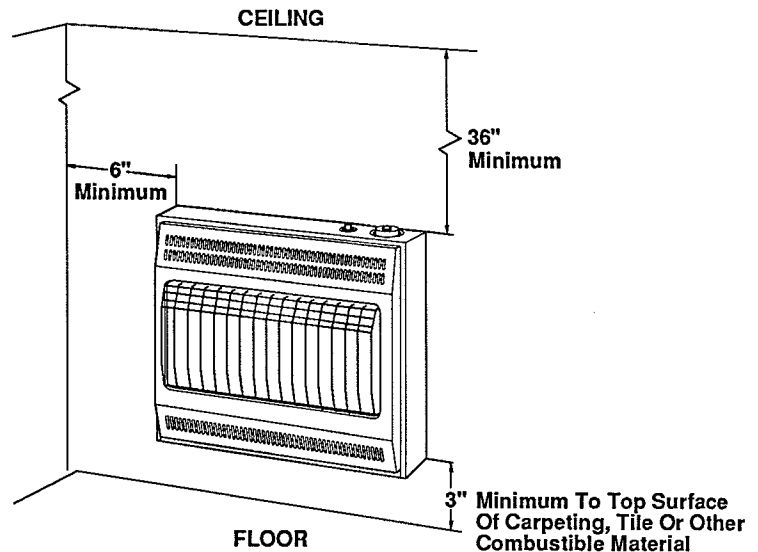

Figure 1 - Mounting Clearances
5. This heater has been designed for wall mounting. The clearances from the heater to combustible surfaces **MUST NOT** be less than shown in Figure 1. These are absolute minimum clearances. Greater clearances should be allowed if possible. If you want to locate your heater on a floor, away from a wall, an optional floor mounting base (see Accessories Section, page 13) is available from your dealer.